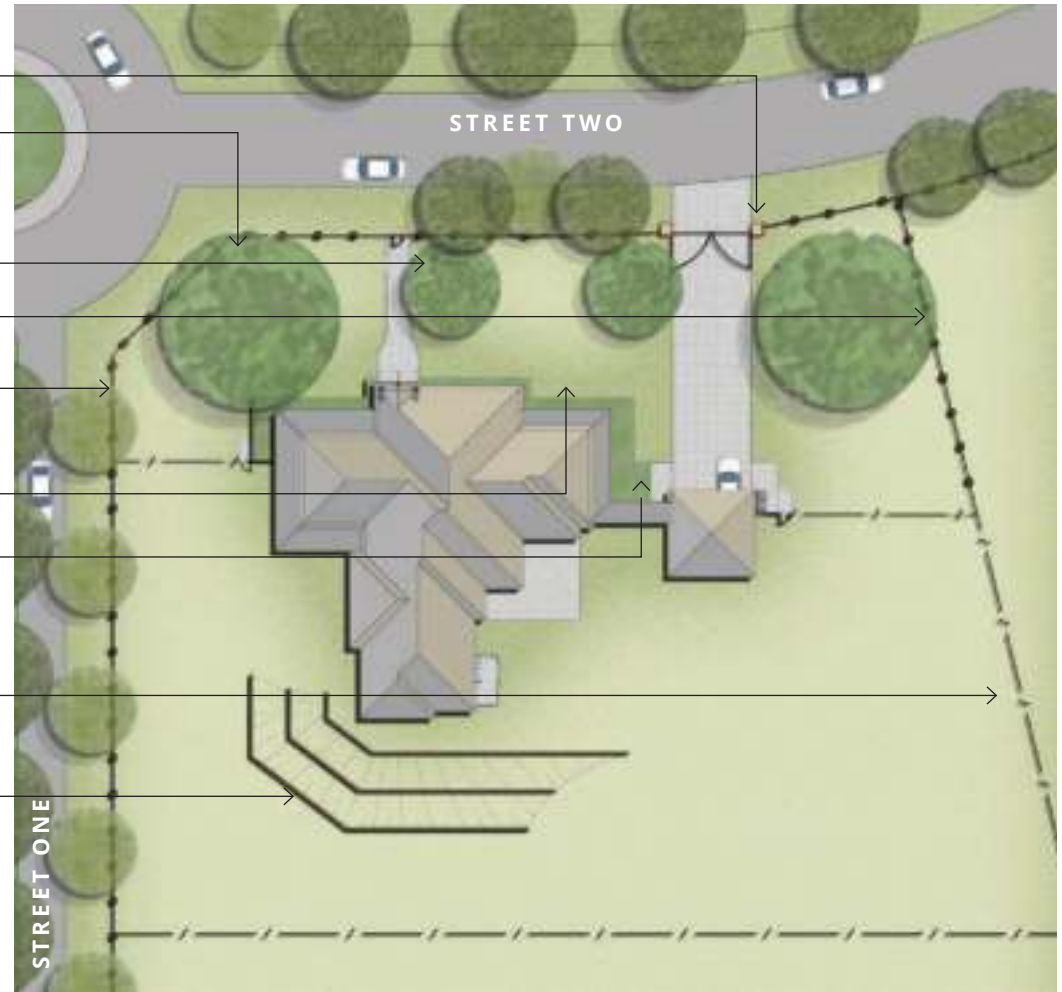

Figure 4: Landscape Plan
- Post and rail from front boundary to facade optional. Refer figure 4